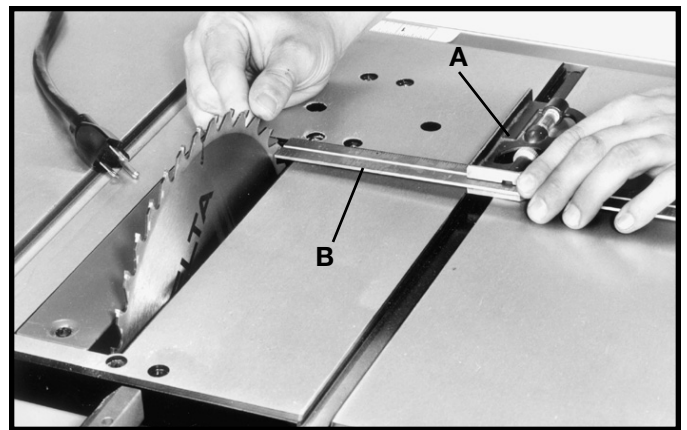
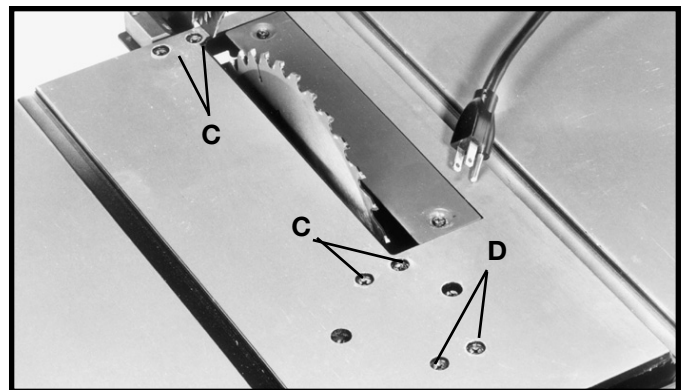

Fig. 45
Fig. 47
4. Using a combination square, place the body (A) Fig. 45, of the square against the miter gage slot and adjust the blade (B) of the square until it just touches the marked tooth, as shown.
6. If the front and back measurements (Figs. 45 and 46) are not identical, you can adjust the blade. Start by loosening the nuts below the four screws (C) Fig. 47 on the table. Then loosen the screws (C). Carefully move the saw blade until the blade is parallel to the miter gauge slot. When done, tighten four nuts under the table and the four screws (C) Fig. 47 securely.